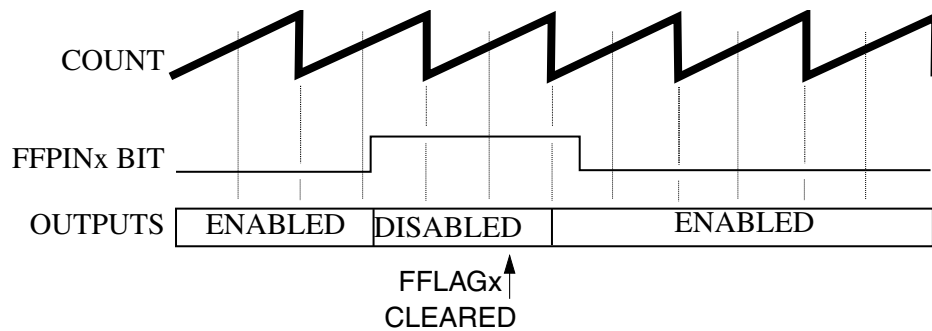

Figure 105. Manual fault clearing (FCTRL[FSAFEx] = 0, FSTS[FFULLx] = 1)
- The pins are enabled when the next PWM full or half cycle begins regardless of the logic level detected by the filter at the FAULT_x pin, as shown in Figure 105. If FSTS[FFULL_x] is set, then the disabled PWM pins are enabled at the start of a full cycle. If FSTS[FHALF_x] is set, then the disabled PWM pins are enabled at the start of a half cycle.